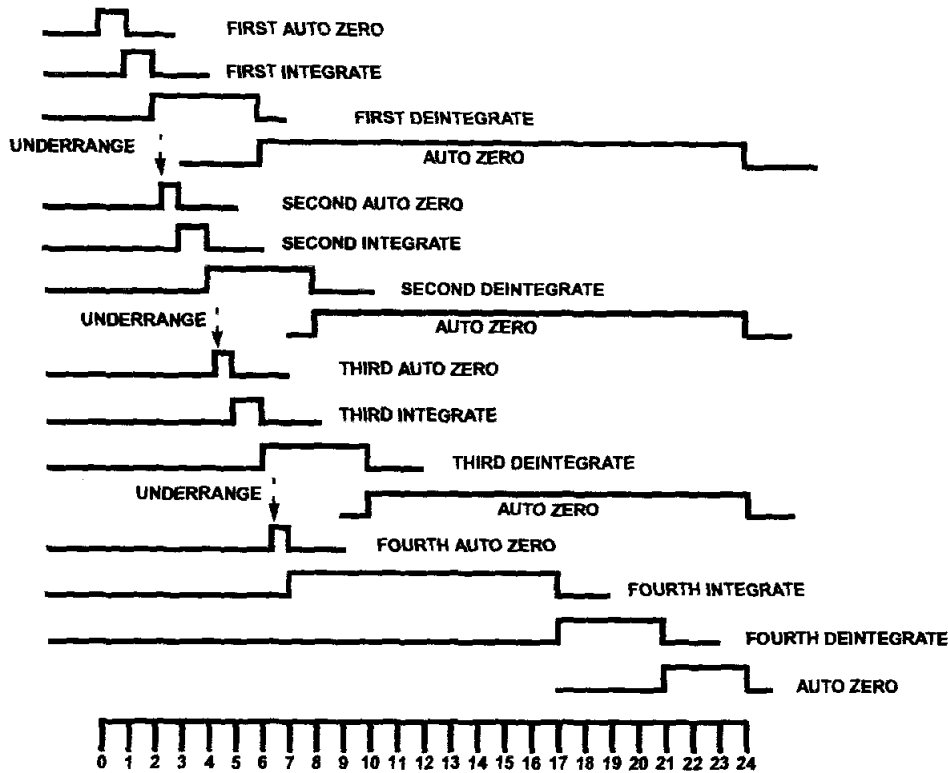
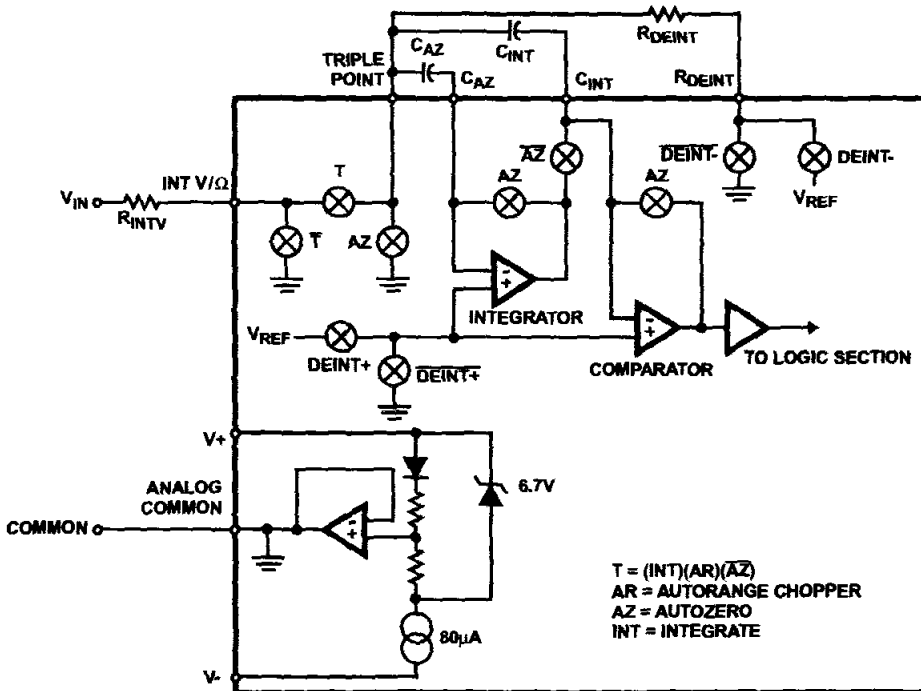

FIGURE 1. LINE FREQUENCY CYCLES (1 CYCLE = 1000 INTERNAL CLOCK PULSES = 2000 OSCILLATION CYCLES)
FIGURE 3. DETAILED CIRCUIT DIAGRAM FOR DC VOLTAGE MEASUREMENT
Only those portions of the analog section which are used during DC voltage measurements are shown in Figure 3. As shown in the timing diagram (Figure 1), each measurement starts with an autozero (AZ) phase. During this phase, the integrator and comparator are configured as unity gain buffers